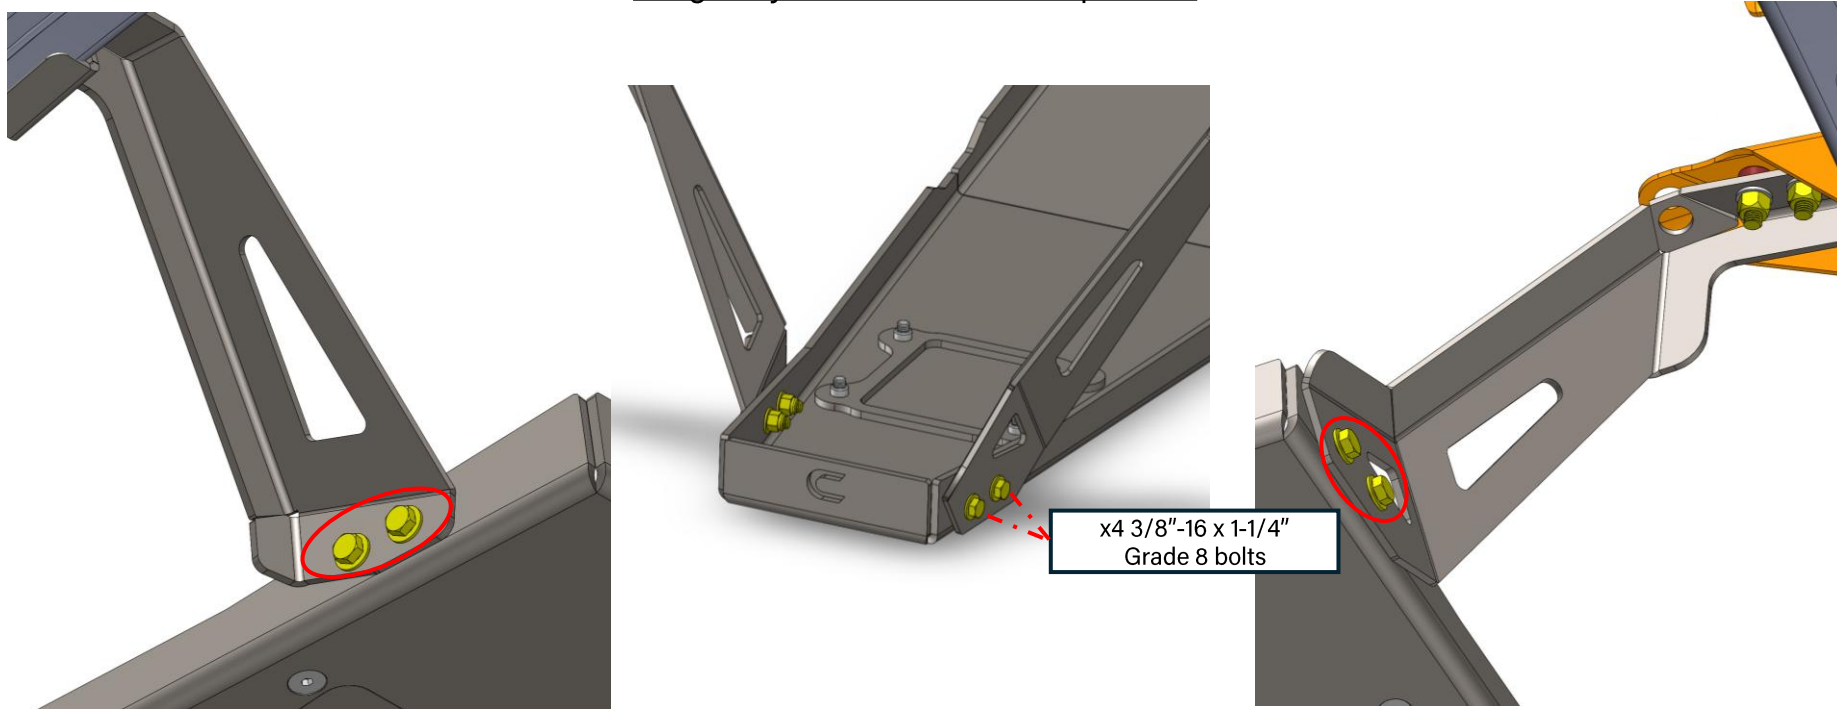

Figure 10: New skid plate installed at OEM 3.6L motor mount locations and skid plate connections
9. Move to the front of the skid plate to install the remaining hardware. Install the x4 longer 3/8"-16 bolts through the holes on the engine skid plate brackets and feed them through the skid plate. **Use x2 washers for each bolt** as seen below in Figure 10. **Loosely** fasten the bolts on the inside of the skid plate with the provided lock nuts.